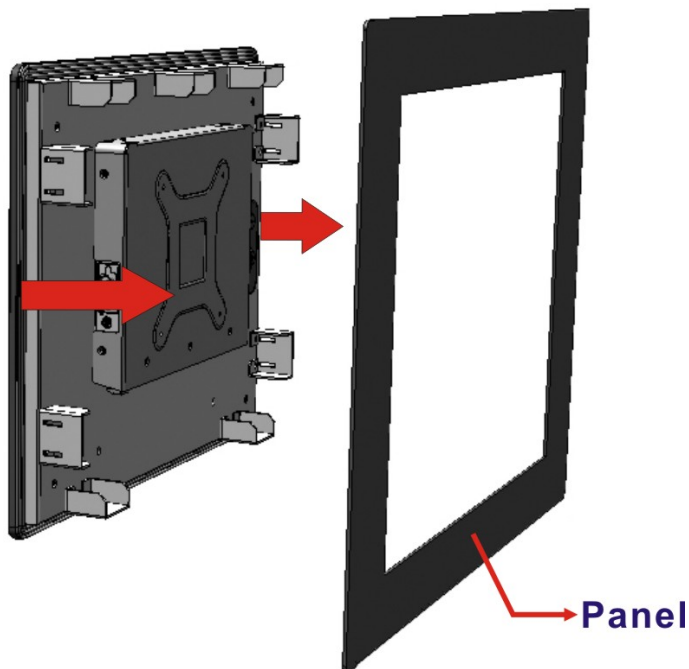

Figure 3-26: Slide into the Panel
Step 4: Slide the monitor through the hole until the aluminum frame is flush against the panel (Figure 3-26).